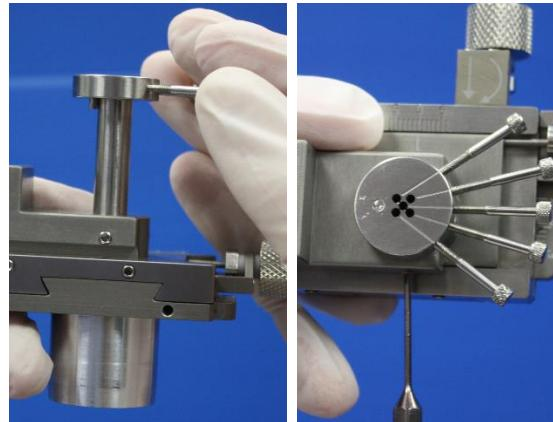

Figure 37: Attaching the Bengun to the Frame Adaptor (X position)
1. Attach the Bengun to the frame adaptor (*Figure 37*), in the configuration matching that of the electrode holder, either X or +.